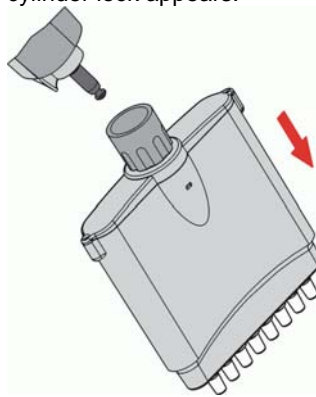

Figure 13: The lower piston assembly will come off easily and automatically.
5. The lower piston assembly will come off easily and automatically as shown in Figure 13.